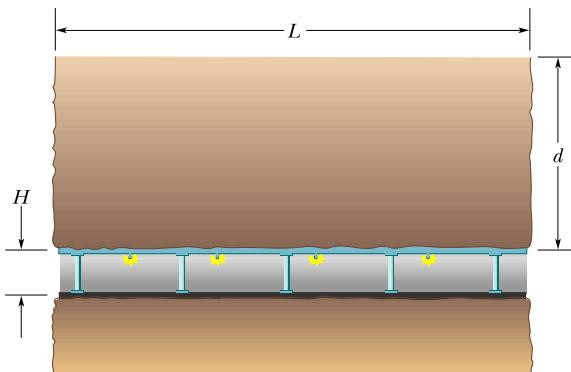

Figure 12.44 Problem 47.
- 47 M** A tunnel of length  $L = 150$  m, height  $H = 7.2$  m, and width  $5.8$  m (with a flat roof) is to be constructed at distance  $d = 60$  m beneath the ground. (See Fig. 12.44.) The tunnel roof is to be supported entirely by square steel columns, each with a cross-sectional area of  $960 \text{ cm}^2$ . The mass of  $1.0 \text{ cm}^3$  of the ground material is  $2.8 \text{ g}$ . (a) What is the total weight of the ground material the columns must support? (b) How many columns are needed to keep the compressive stress on each column at one-half its ultimate strength?